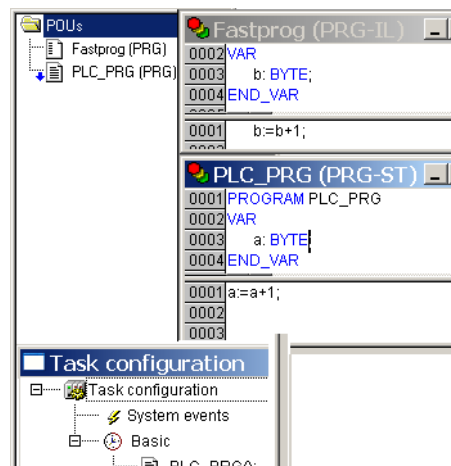

Figure 74: PLC and Task configuration
- Create the POUs "PLC_PRG" and "Fastprog" as shown in Figure 74.